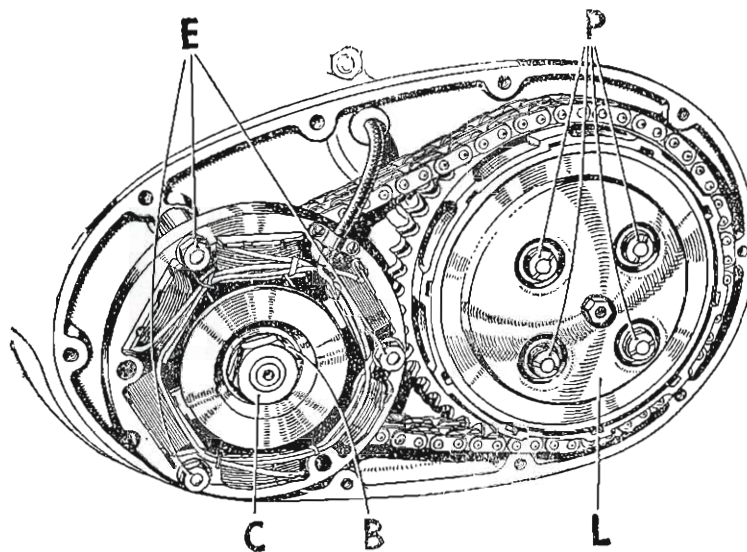

FIG. C6A. *Clutch and generator removal.*
To remove the stator take off the three nuts and washers (E) Fig. C6A, and pull the alternator lead through the rubber grommet in the back of the chaincase.
Bend back the tab of the lockwasher (B) Fig. C6A under the engine crankshaft nut and remove the nut (C) which has a right-hand thread.
Remove the four spring retaining nuts (P) Fig. C6A on the clutch, and withdraw the springs and cups. The pressure plate (L) Fig. C6A and the remaining clutch plates can now be removed but note should be made of the order in which they are fitted.